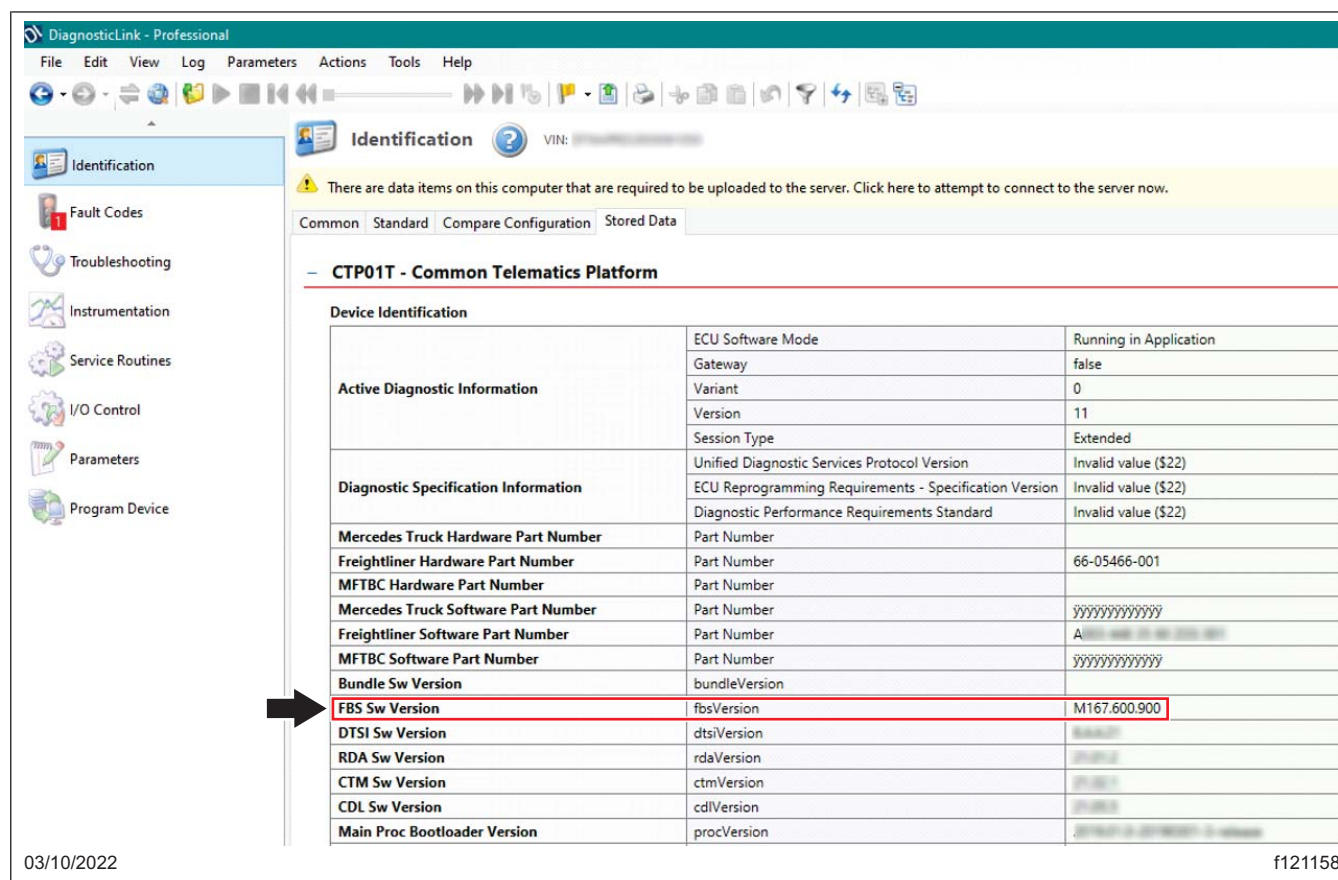

Fig. 34, Verifying FBS Version
15. Go to 'Identification,' 'Stored Data' and verify 'FBS Sw Version' is '167.600.900.' If either 'Software Version' or 'FBS Sw Version' do not match the above versions, disconnect the CTP01T and connect again. See Fig. 34.